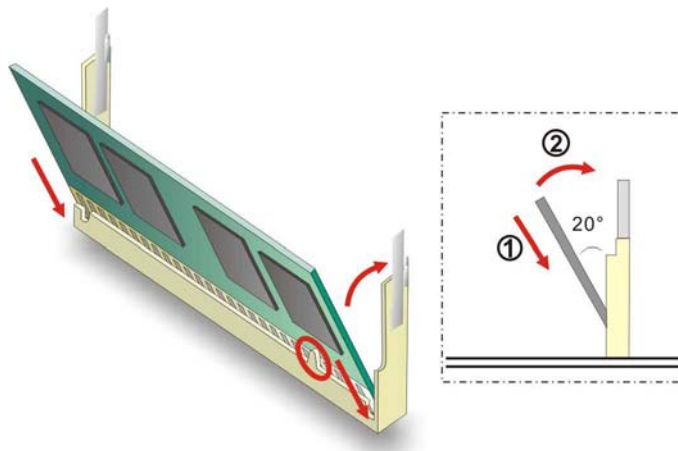

Figure 5-1: SO-DIMM Installation
To install a SO-DIMM into a SO-DIMM socket, please follow the steps below and refer to Figure 5-1.
- Step 3:** **Insert the SO-DIMM.** Push the SO-DIMM chip into the socket at an angle. (See Figure 5-1)
Step 4: Open the SO-DIMM socket arms. Gently pull the arms of the SO-DIMM socket out and push the rear of the SO-DIMM down. (See Figure 5-1)